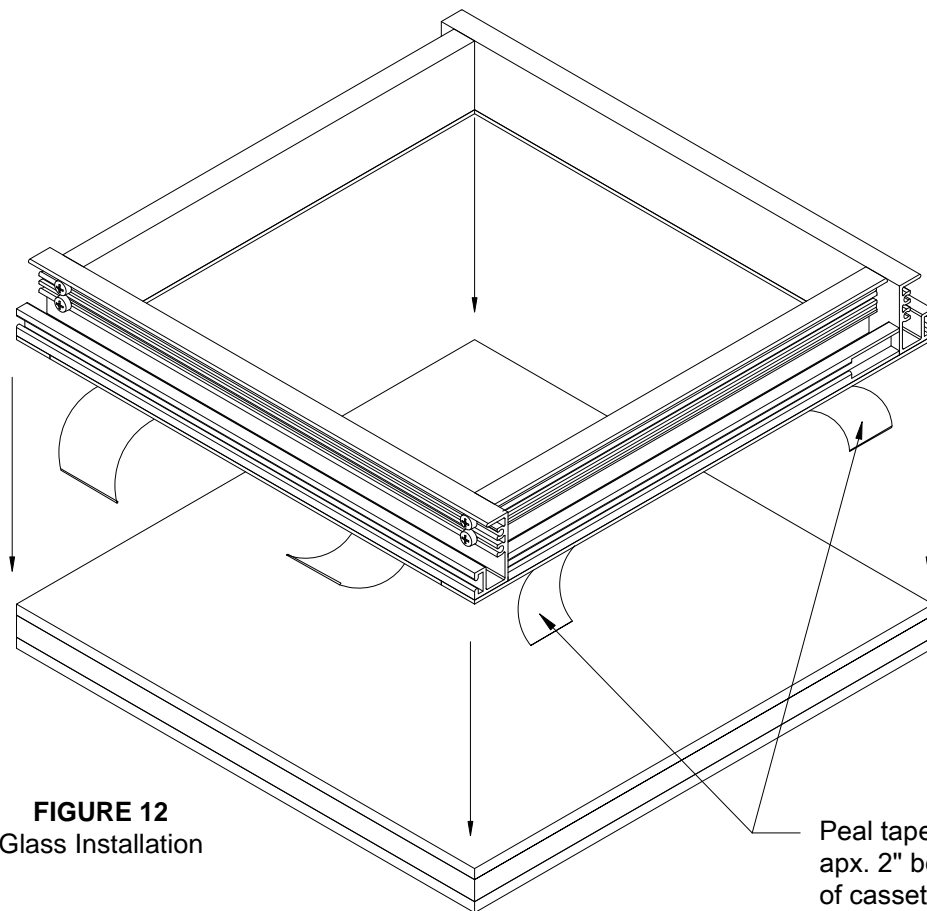

FIGURE 12
- 2.11 Remove approximately 4" of protective liner at each corner from the cassette unit. Take care not to touch or contaminate the exposed adhesive. SEE FIGURE 12, page 18